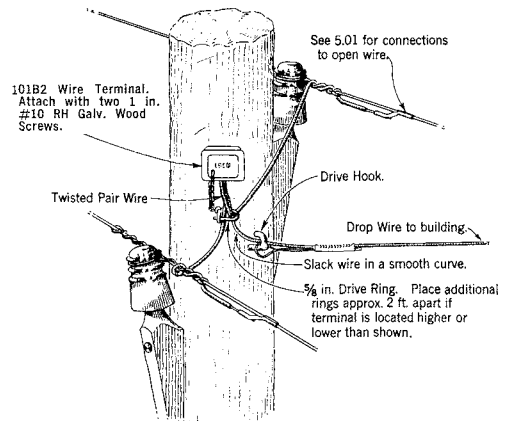

Fig. 7 — Where Pole Brackets Are Located on Opposite Sides of Pole
4.14 The wiring arrangements on line poles equipped with wooden pole brackets are illustrated in Fig. 7 and 8.